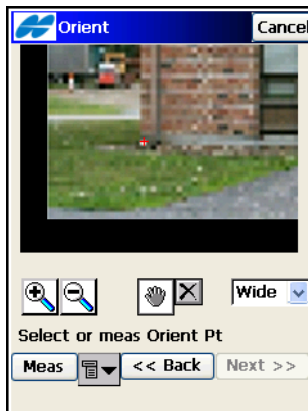

Figure 8-60. Select Orientation Point – Wide View
- *Wide View* zooms out and shows the area of the image which contains the orientation point (Figure 8-60).